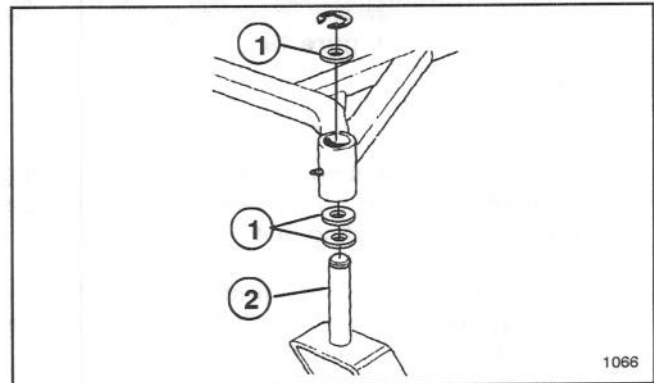

Figure 18
3. To change front-to-rear pitch move equal number of thrust washers on both front castor shafts. Move thrust washers from top to bottom to raise, or bottom to top to lower pitch (Fig. 18).
3. To change side-to-side leveling move thrust washers on one front castor shaft only. Move thrust washers from top to bottom to raise, or bottom to top to lower (Fig. 18).